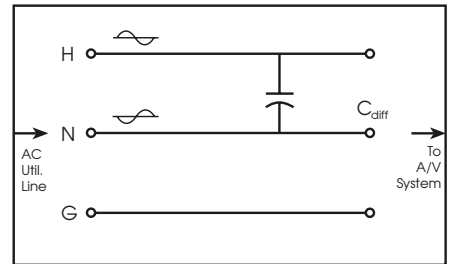

Figure 1A: A series type filter.
formers (T). Figure 1a shows an example of how differential-mode noise is typically handled by filtering on the power line. Since the phases are opposite, when they are combined, the noise cancels out. A simple and almost universal method is to place a small value capacitor (.01-.05 μ fd) across the lines to effect this cancellation of unwanted frequencies (noise). As frequencies get higher, the capacitor begins to look like a good conductor, and the two out-of-phase noise signals will cancel each other out.